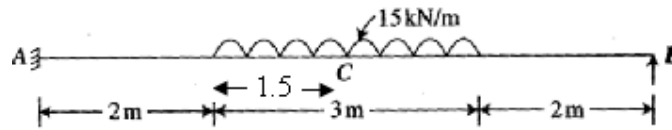

Fig.1
- 6 Using the Kani's method analyse the frame shown in fig.1. [16M]